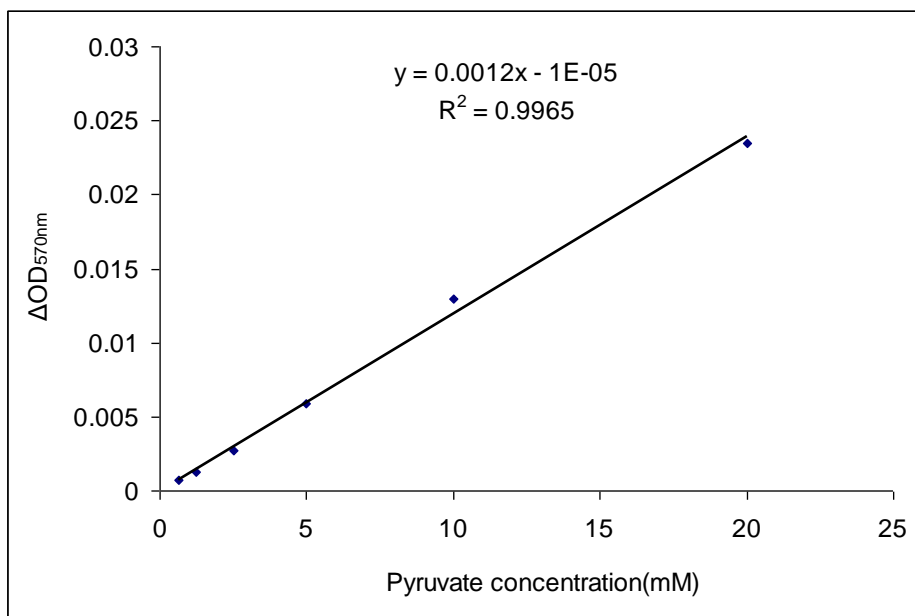

Figure 1. A typical pyruvate standard curve measured by ScienCell™ Pyruvate Kinase Assay kit.
2. Based on the calibrated ΔOD_{570nm} of the pyruvate standard, make a standard curve by plotting ΔOD_{570nm} as a function of pyruvate concentration (See Figure 1 for a typical standard curve). Determine the slope and R^2 value of the resulting trend line.